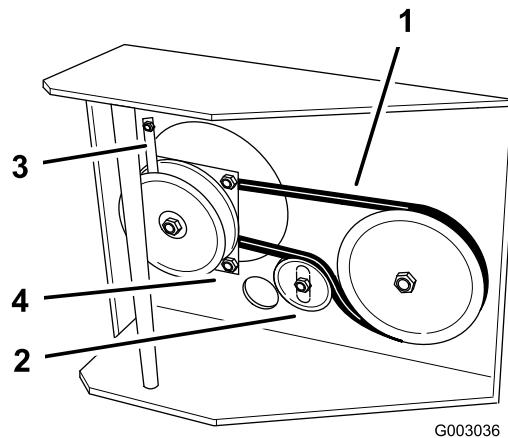

Figure 41
8. Unhook the clutch retainer from the clutch and remove the retainer (Figure 41).
9. Loosen the idler mounting bolt enough to move the idler pulley and remove the traction belt from the drive pulley and clutch (Figure 41).
11. Hook the clutch retainer into the clutch and secure it to the frame with the engine mounting bolt (Figure 41).
12. Torque pivot bolt to 170-220 in-lb (19-24 N·m) (Figure 41).